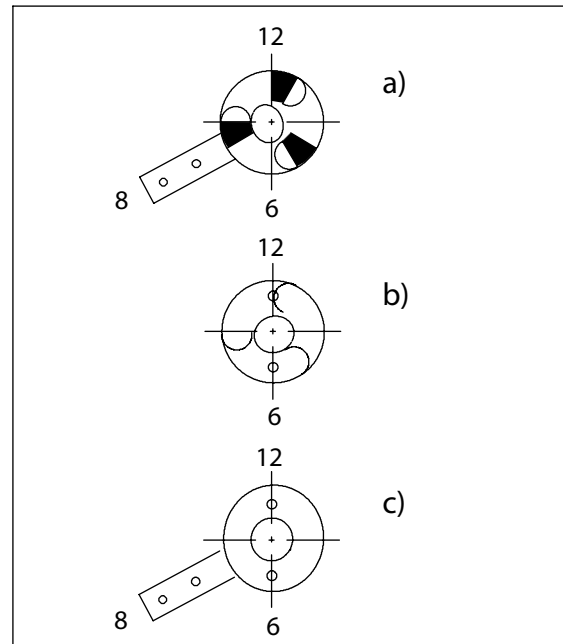
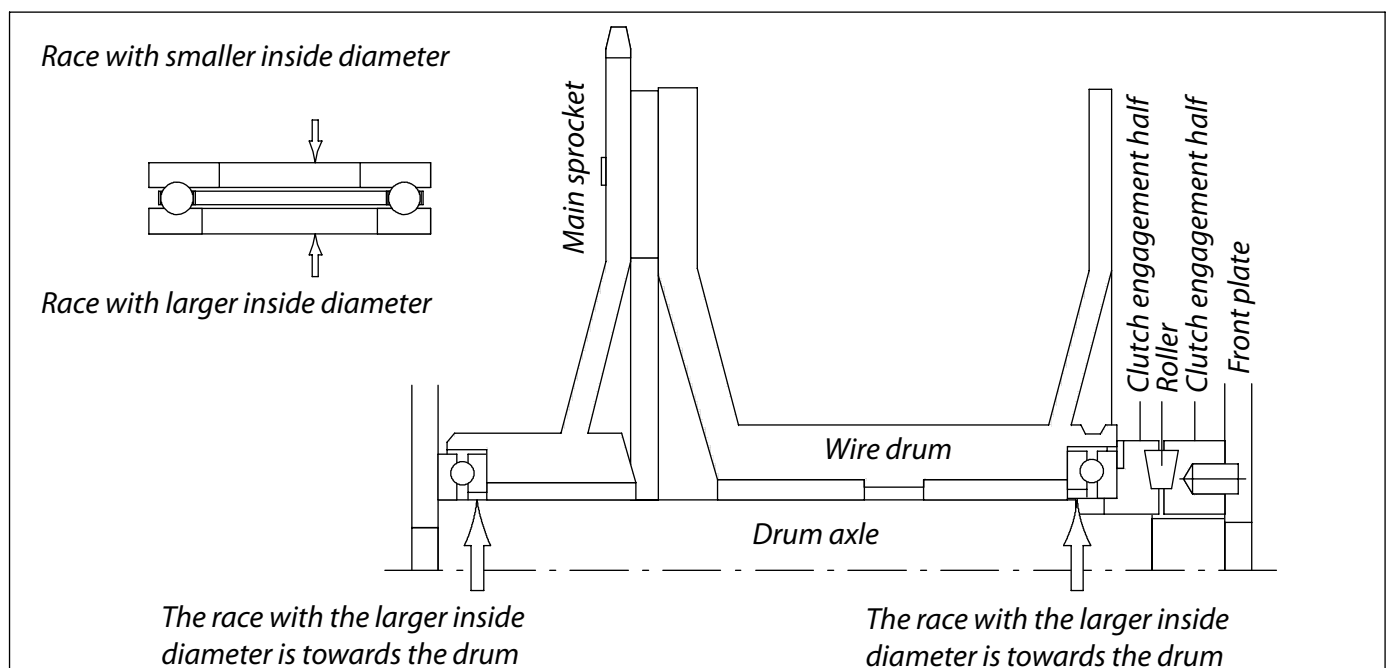

Fig. 20. Reassembling of the clutch engagement halves
Fig. 21. Correct positioning of the thrust bearings
Make sure that the both pressure bearings are installed in a correct position, that is, the bearing with bigger internal diameter should be facing the cable drum (figure 21). Make sure that the position of the two clutch engagement halves is correct (fig. 20).
2. Grease the 3 slanted surfaces with vaseline and place the 3 rollers on the bottom of the slanted surfaces so that the thin ends point towards the middle. The other clutch engagement half (without handle) has 3 slanted surfaces on one side and two holes drilled on the other side (fig 20). Two studs on the back of the front plate will fit into these holes later on when the winch is assembled.
3. Place one clutch engagement half (without the handle) so that the halves bottom out when the handle is at 8 o'clock position and the two holes are at 12 o'clock and 6 o'clock (fig. 20). Be careful, there is only one correct position! Tape the halves together so that they will stay together when you mount them on the drum axle.